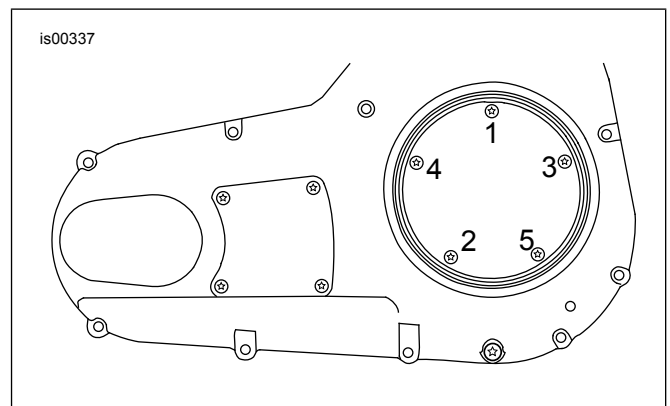

Figure 1. Torque Sequence, Clutch Inspection Cover
5. Install gasket and derby cover (1) on primary chaincase cover using screws and washers from the kit. Tighten screws to 10–12 N·m (84–108 **in-lbs**) in the sequence shown in Figure 1.